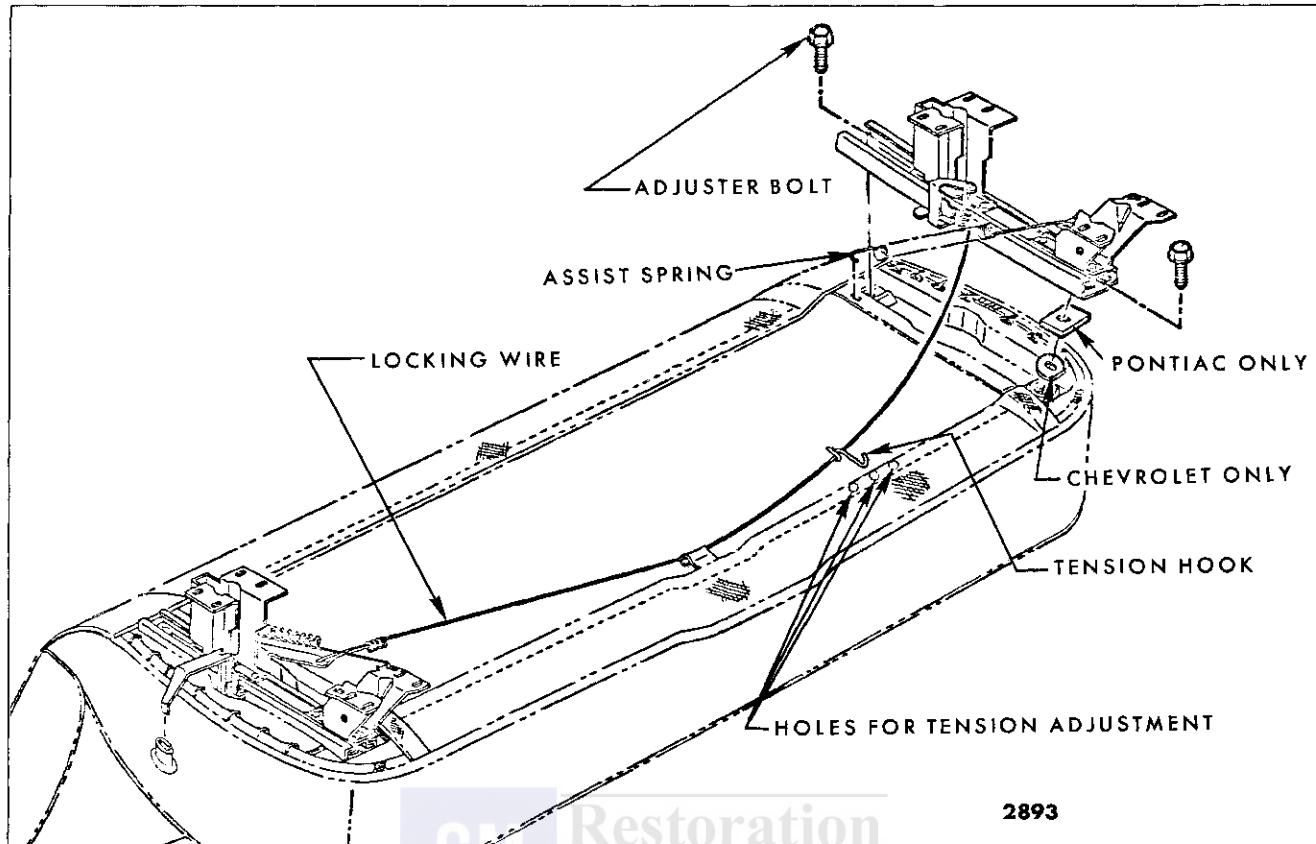

Fig. 15-5—Manual Seat Adjuster Installation — "B & C" Shown, "A, F, X & Z" Typical
2. Remove seat adjuster assist spring from adjuster to be removed (Fig. 15-5).
4. Remove adjuster-to-seat bottom frame front and rear attaching bolts (Fig. 15-5) and remove seat adjuster from seat.
After installing adjusters to seat frame, check operation of adjusters. If adjusters do not lock or unlock satisfactorily when control handle on left adjuster is operated, disengage locking wire retainer from hole in seat bottom frame and engage retainer in one of adjacent holes to obtain proper tension in wire (Fig. 15-5).